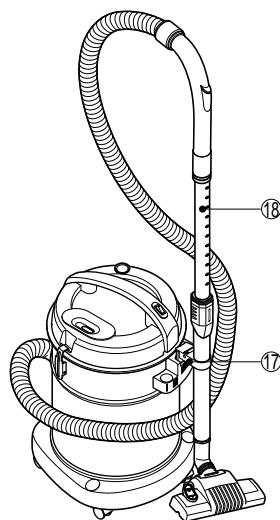

Fig.8 Storage
- Coil the hose around the telescopic pipe ⑯ to make it compact and stable and rest the telescopic pipe on the pipe rest ⑯ as shown in Fig. 8.